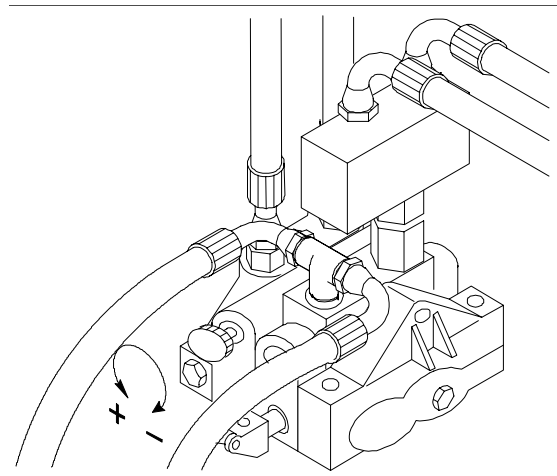

Fig.7.
- Adjust feedrollers rotational speed to match the speed of the disk with the oil control valve. Turning counter-clockwise increases the feedrollers speed. Fig.7.